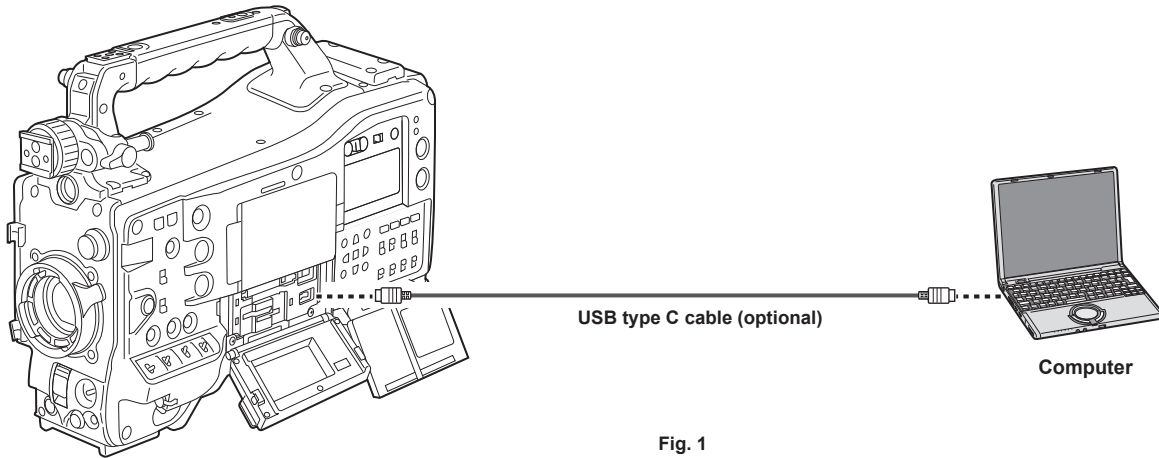

Fig. 1
**1** Connect the USB cable to the <USB DEVICE> terminal. (Fig. 1)